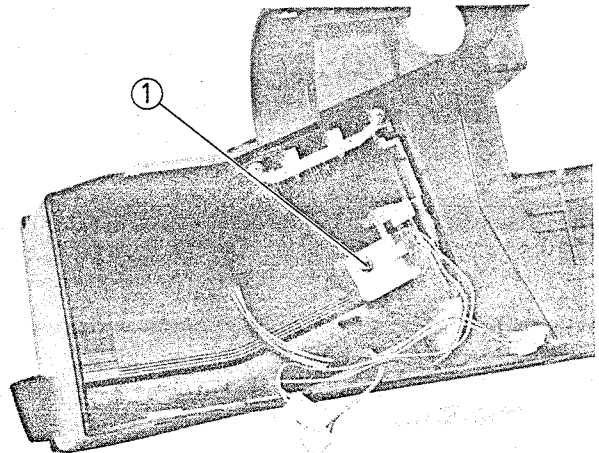

Fig. 2-43 VTR REC Switch Circuit Board Removal
VTR REC Switch Circuit Board Removal (Figs. 2-43, 2-44)
1. Remove one (1) screw holding the VTR REC switch circuit board holder. (See Fig. 2-43)